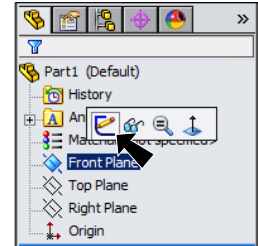

Fig. 1
Step 2. Click **Front Plane**  in the Feature Manager and click **Sketch**  from the Context toolbar, **Fig. 1**.